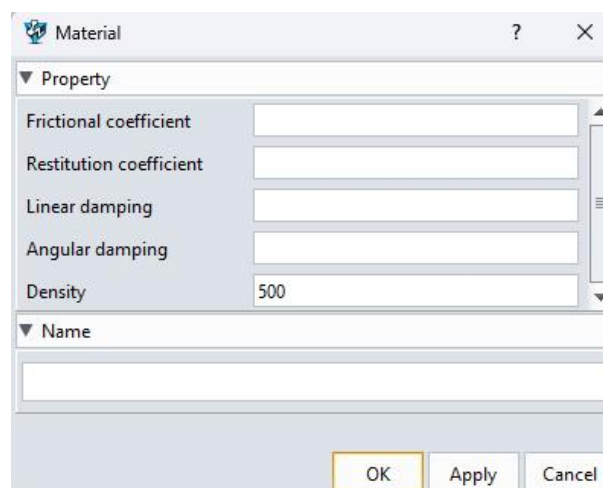

Figure 3-10: Materia
- **Materials:** The input friction coefficient and recovery coefficient of collision materials enable the object to have frictional force, which can more vividly simulate the simulation form of the object. (Figure 3-10)